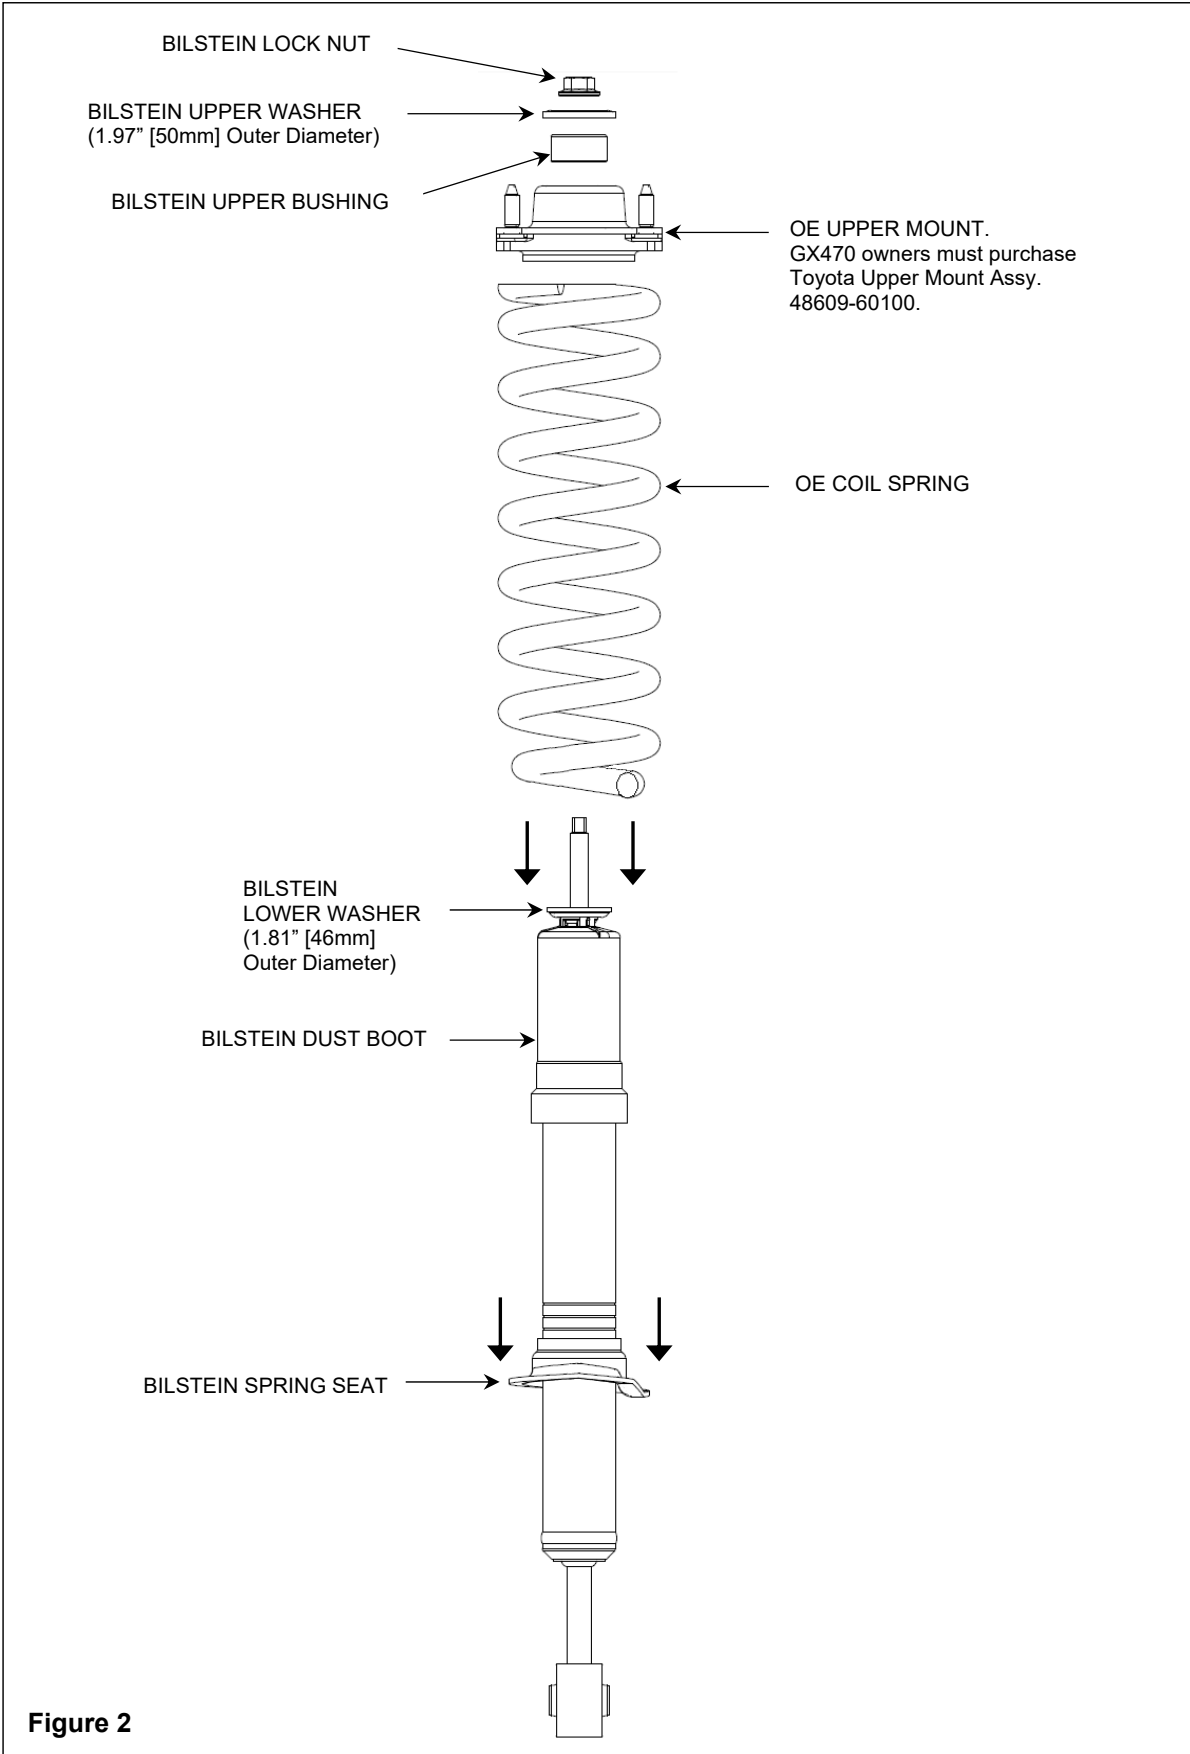

Figure 2
- H. Install the supplied lower washer (concave side up) onto the stem of the rod as shown. Ensure that the lower washer is oriented correctly (see Figure 2).
- I. Using an appropriate spring compressor, compress the OE spring and assemble it with the new Bilstein shock. Align the bottom coil of the spring with the ramp on the spring seat. Refer to Figure 2 for the order of the remaining components.
- K. Install the supplied upper bushing and supplied upper washer (concave side down) as shown. Ensure that the upper washer is oriented correctly (see Figure 2).